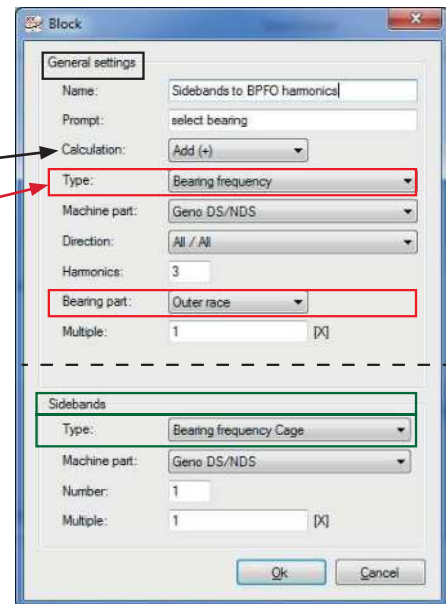

Fig. 9b. The building "Block" for the diagnose rule called "Example 1".
To add a new "Block", click the **Add** button in **fig. 9a**. The window in **fig. 9b** opens.
General settings (in fig. 9b)
- **Type** is the selected type of frequency that will be used by the rule. Depending on the selection of "Type", different types of machine parts are selectable. In this case, the type "Bearing frequency" was selected in **fig. 9b**. The selection of bearings is limited to bearings added to the machine part tool for this machine.
Sidebands (in fig. 9b)